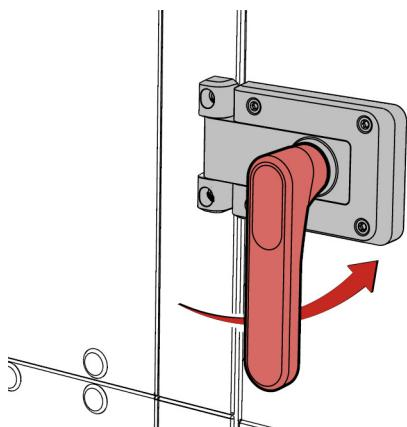

Fig. 48: Inspection access door with lock
► Turn the door handle anti-clockwise by 90° (Fig. 48).